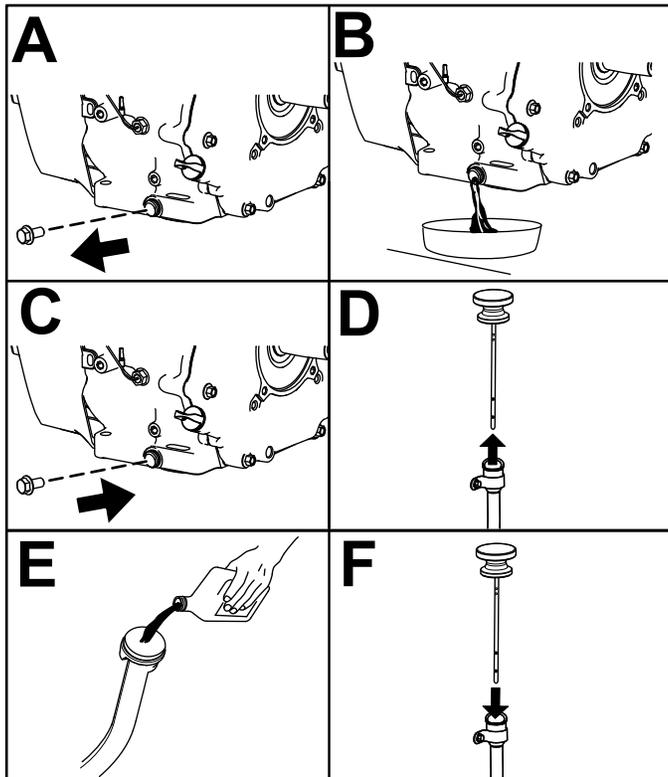

Figure 44
6. Change the engine oil as shown in Figure 44.